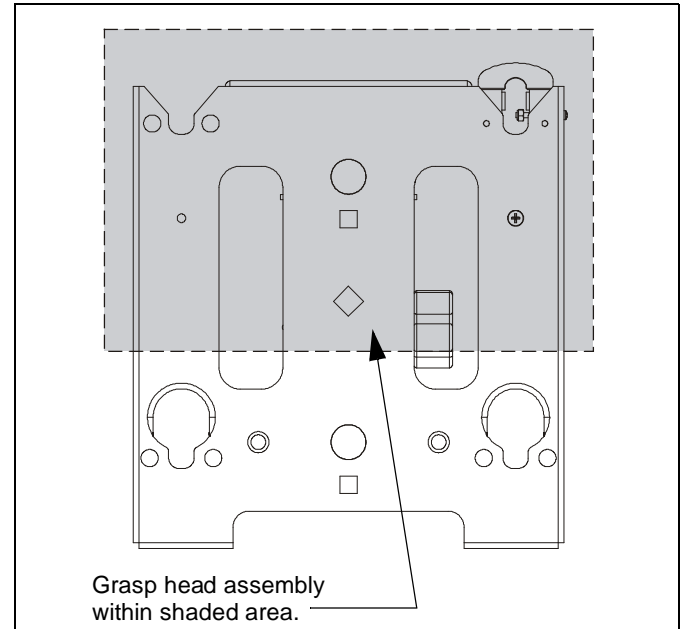

Figure 6
1. Firmly grasp head assembly. (See Figure 6)